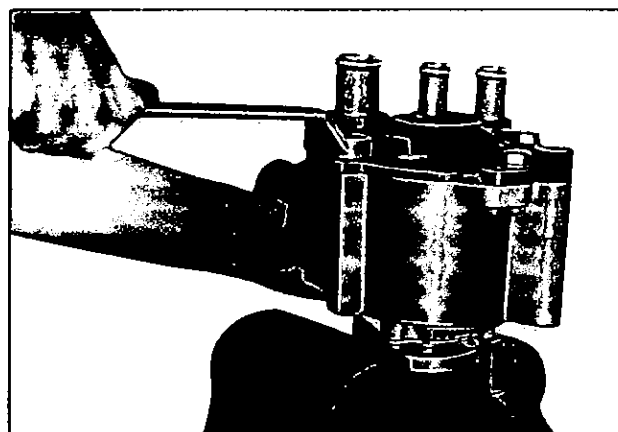

Fig. EC-9 Removing end cover
2. Clamp air pump drive hub in a vise, as shown in Figure EC-9 and remove four housing end cover bolts.